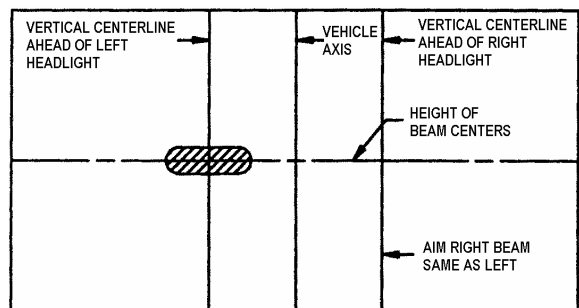

FIGURE 35: HIGH-INTENSITY ZONE (SHADED AREA) OF A PROPERLY AIMED UPPER BEAM ON THE AIMING SCREEN 7.6 M (25FT) IN FRONT OF VEHICLE 06503
- 5. High beam headlights are aimed so that the center of the high-intensity zone is located at the horizontal and straight ahead vertically (Fig. 35).